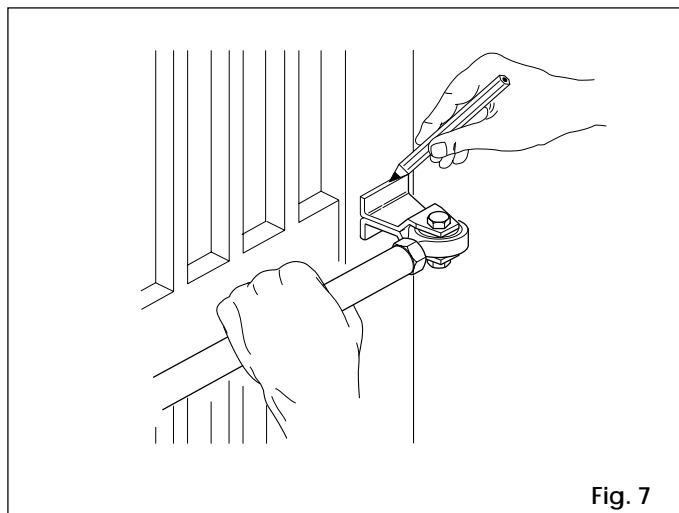

Fig. 7
- 8) Close the gate leaf and, keeping the operator perfectly horizontal, locate the leaf attachment position of the front bracket (Fig. 7).